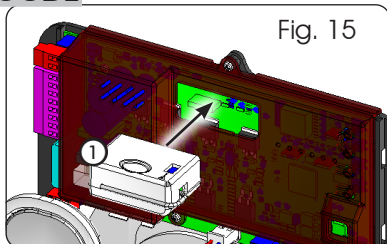

Fig. 15
The control board is equipped with an integrated dual channel decoding system (DS, SLH, LC/RC) known as OMNIDEC. This system can use an additional receiving module (Fig. 15 ref. ①) and radiocontrols of the same frequency to store both total opening (OPEN A) and partial opening (OPEN B) of the automated system.